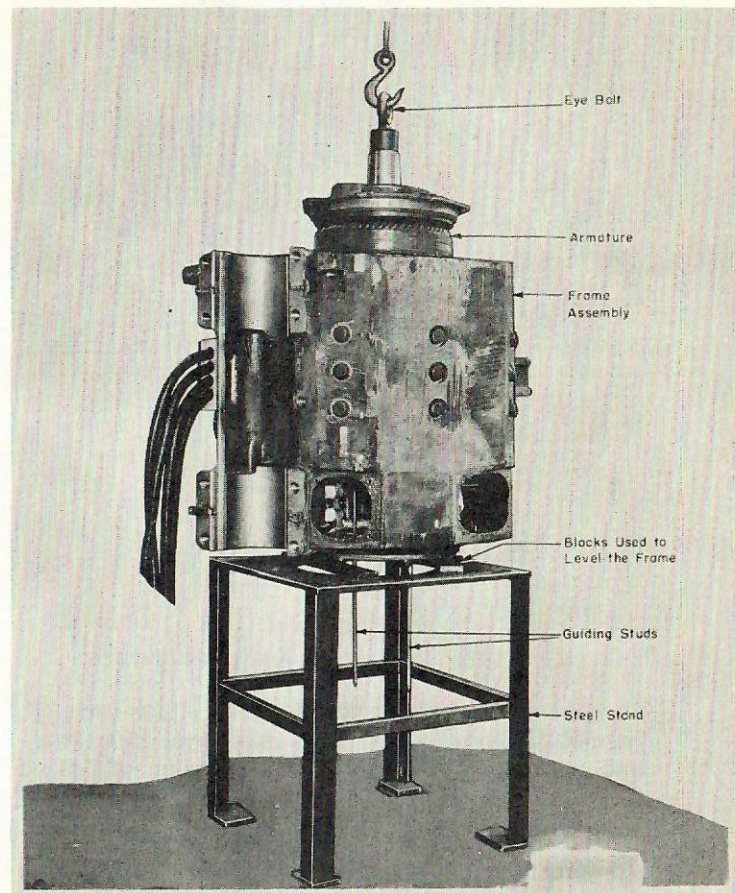

Fig. 6-10
6. Turn motor on end, commutator end down, and level it so that armature can be lifted vertically out of frame without damaging the bearings, commutator or brush holders. See Fig. 6-10.